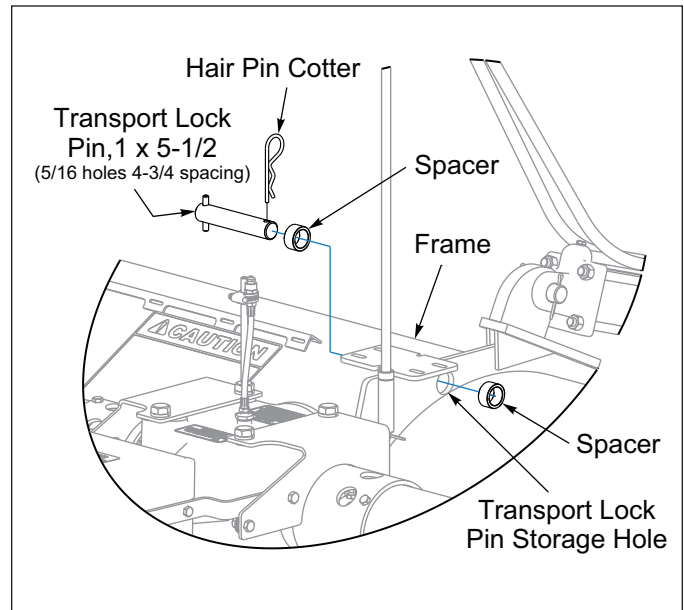

Figure 2-7: Transport Lock Stored
2. The Shipping Link Top Pin with the Spacers is the Transport Lock Pin (1 x 5-1/2 with 5/16 holes on 4-3/4 spacing). Remove Transport Lock Pin and Spacers and place them in the frame Center Plate hole which is the storage position. **See Figure 2-7.**